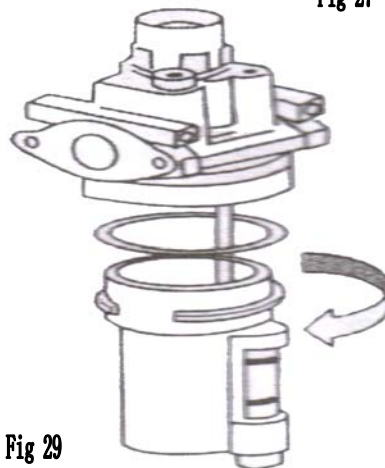

Fig 29
- Periodically check the height of the in the oil fogger. If it is lower than the oil scale, please fill in the SAE30 grease(Fig29)